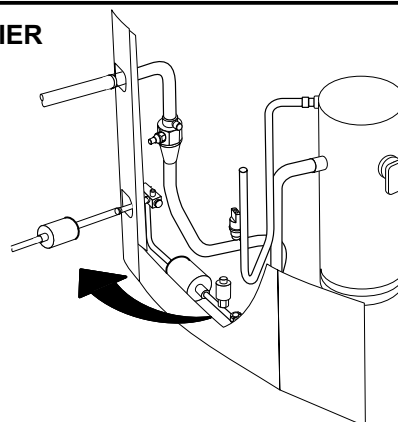

FIGURE 10
- 9- If pressure drop is greater than 4 psig replace filter drier. See figure 10.